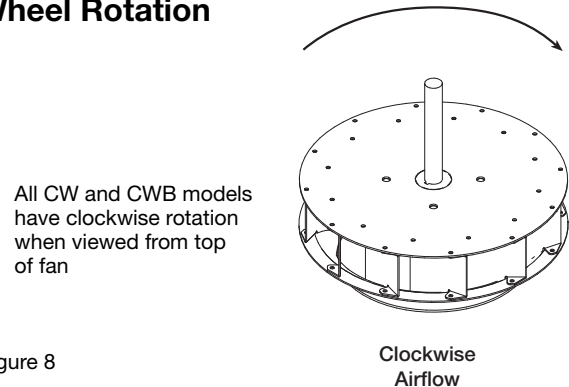

Figure 8
7. Check wheel rotation (viewing from the shaft side) by momentarily energizing the unit. Rotation should be clockwise and correspond to the rotation decal on the unit, see figure 8. If wheel rotation is incorrect reverse two of the wiring leads or check motor wiring for single phase.
3. Start the fan and shut it off immediately to check rotation of the wheel with directional arrow in the motor compartment, see figure 8.